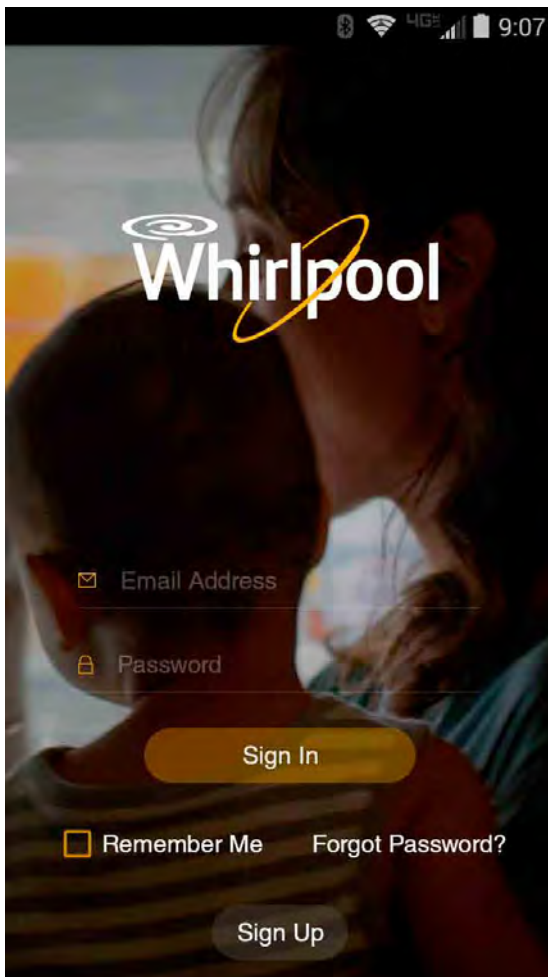

Figure 2
1. Select "Sign Up" to begin account setup. See Figure 2.